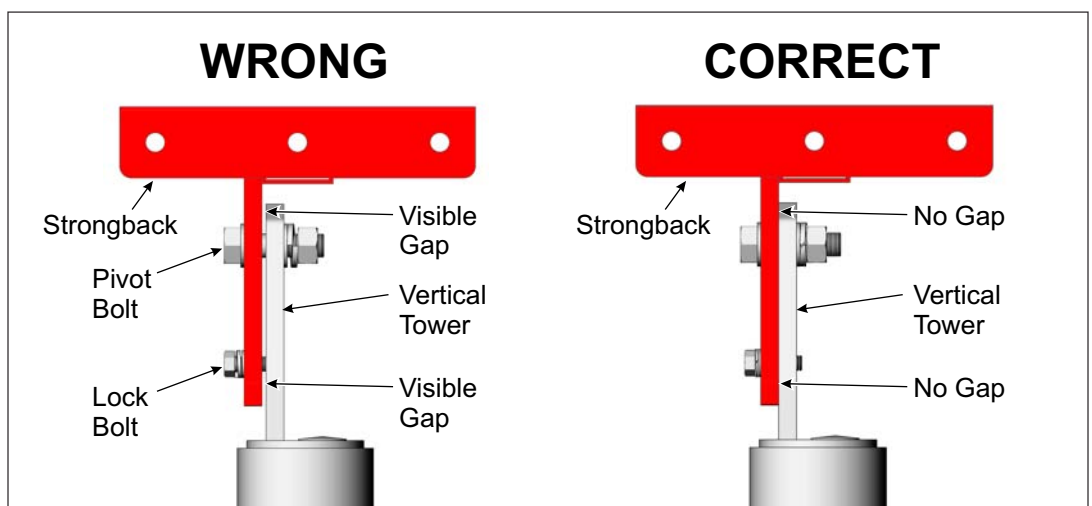

Figure 6-3: Re-Tighten and Torque the Pivot Bolt
- C. After changing the tilt angle and tightening the Lock Bolt, the Pivot Bolt must be re-tightened. The Pivot Bolt cannot be left loose - the Mounting Sleeve Vertical Tower must be firmly clamped to the Strongback Pivot Plate. **Torque Pivot Bolt to 75-85 ft.-lbs.** (see Figure 6-3)